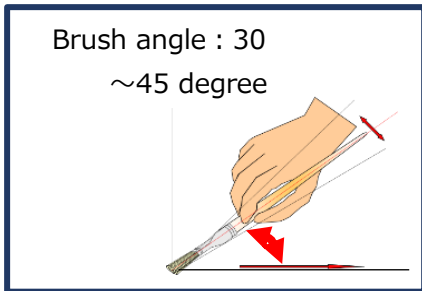

Figure 9
- Use brush angle of 30-45 degrees to smooth the sealer (Figure 9)